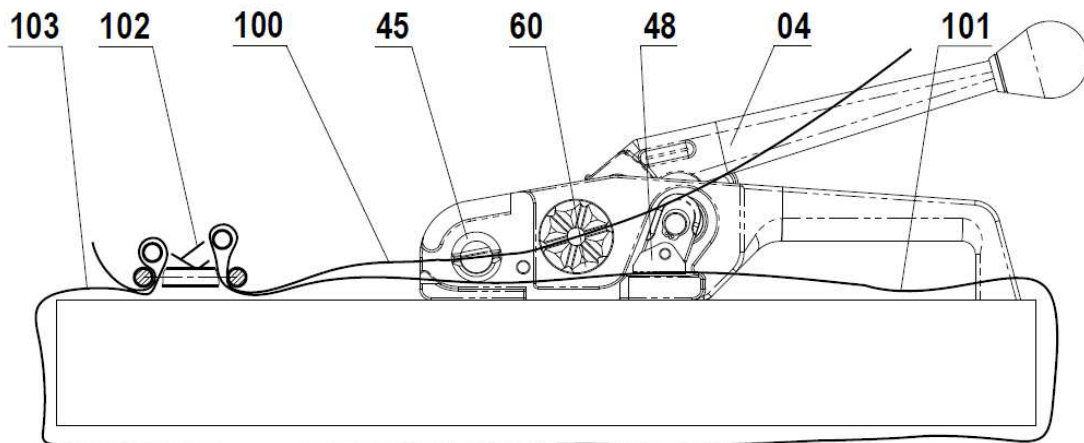

Fig. 3
2. Raise **Gripper Foot 48** by pressing down on **Tension Handle 04**. Load **Bottom Strap 101** under **Cutter Housing 45**, under **Gripper Foot 48** end release **Tension Handle 04**. Load **Upper Strap 100** through **Cutter Housing 45** through **Windlass 60** as shown on Fig. 3.